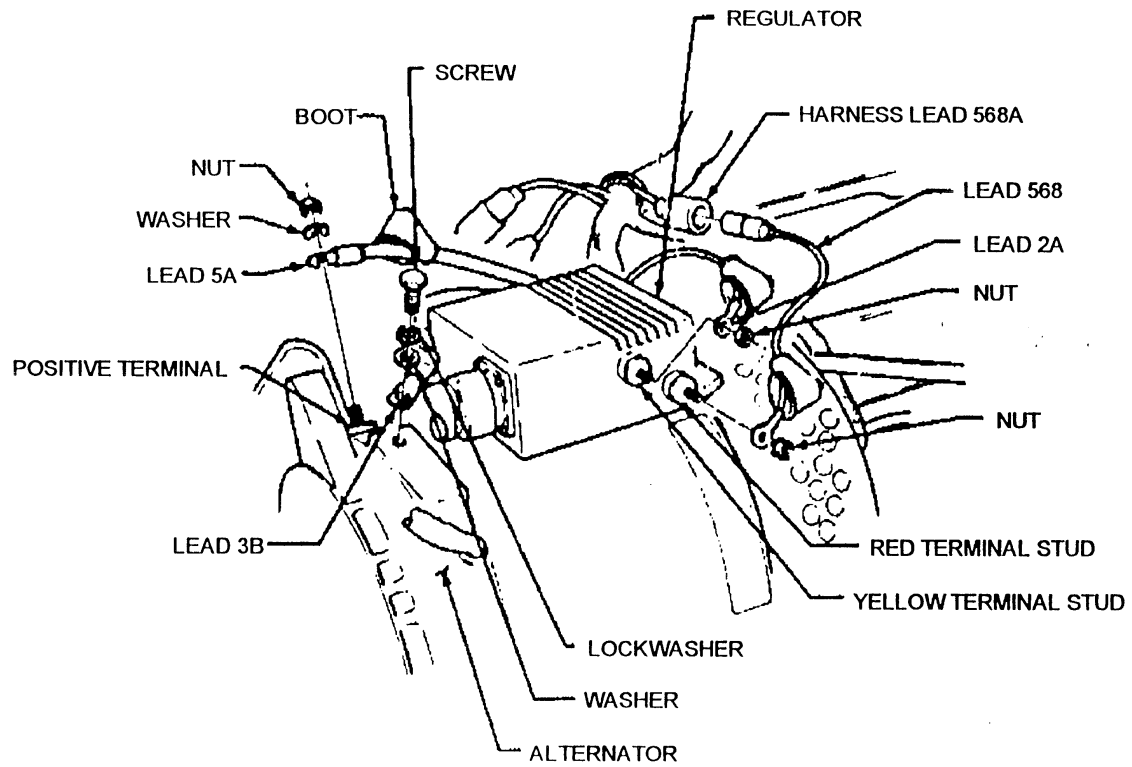

FIGURE 3-7
B. If your vehicle has the Prestolite alternator you can replace the alternator with the Niehoff model. The mounting brackets are the same but the wiring connections are a little different. See figure 3-7 for the proper wiring connections for the Niehoff alternator.